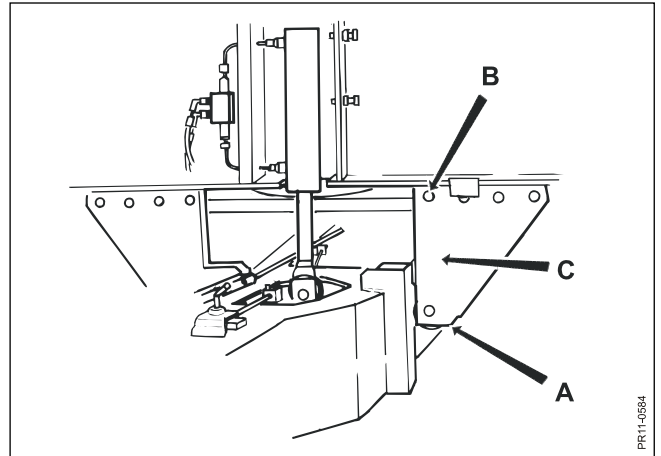

Fig. 9.8
- Fig. 9.8** Support rollers for the tip (A) must ensure that there is no unnecessary play between undercarriage and mixing tank. Play and friction free guidance ensures a stable and good measuring of weight.